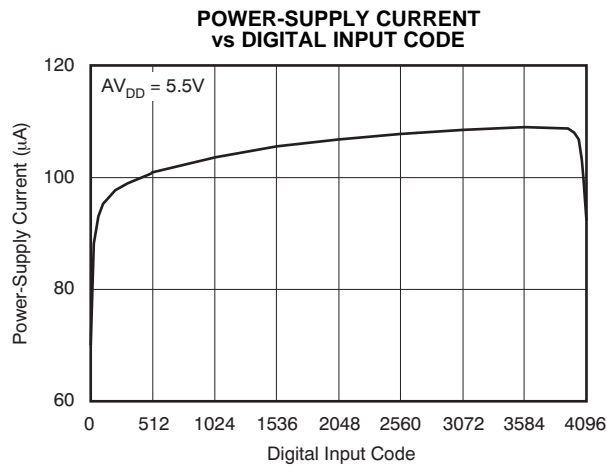

Figure 9.
(6) Specified by design and characterization, not production tested.
(7) For more details, see Figure 9, Figure 44, and Figure 69.